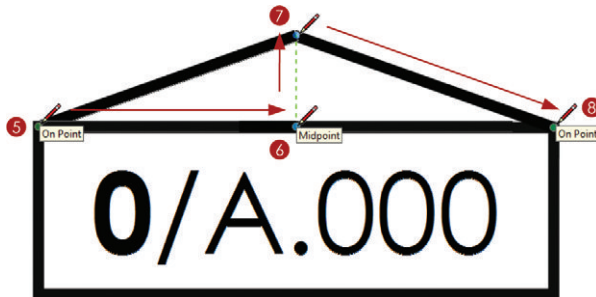

Figure 13.27 Use the Line tool to draw the arrow indicating elevation direction. (Fill is turned off for effect.)
5. Activate the Line tool, and set the Fill color to black. Click on the top-left corner of the text box to start the line (Figure 13.27).